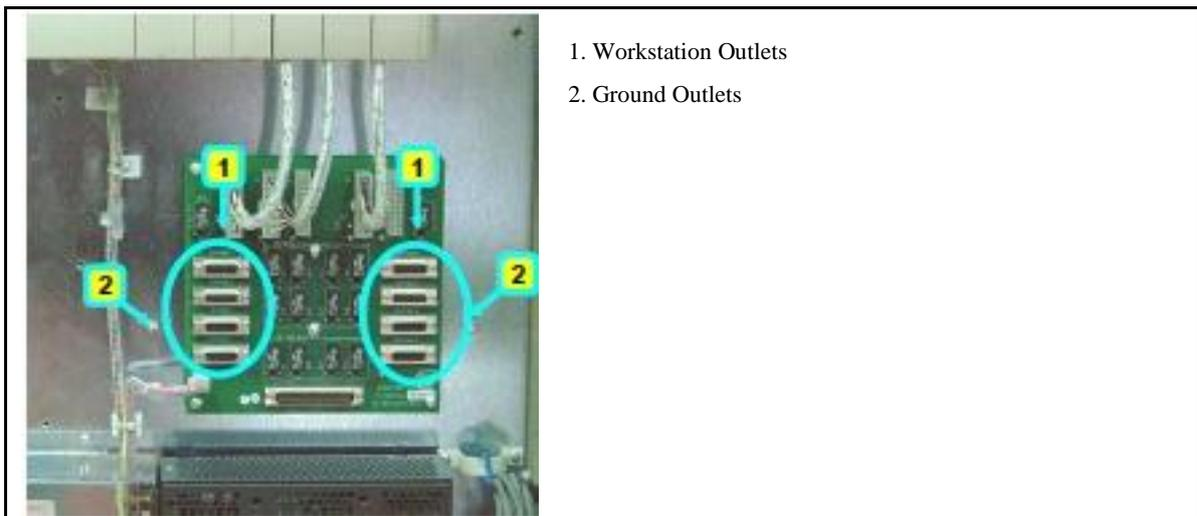
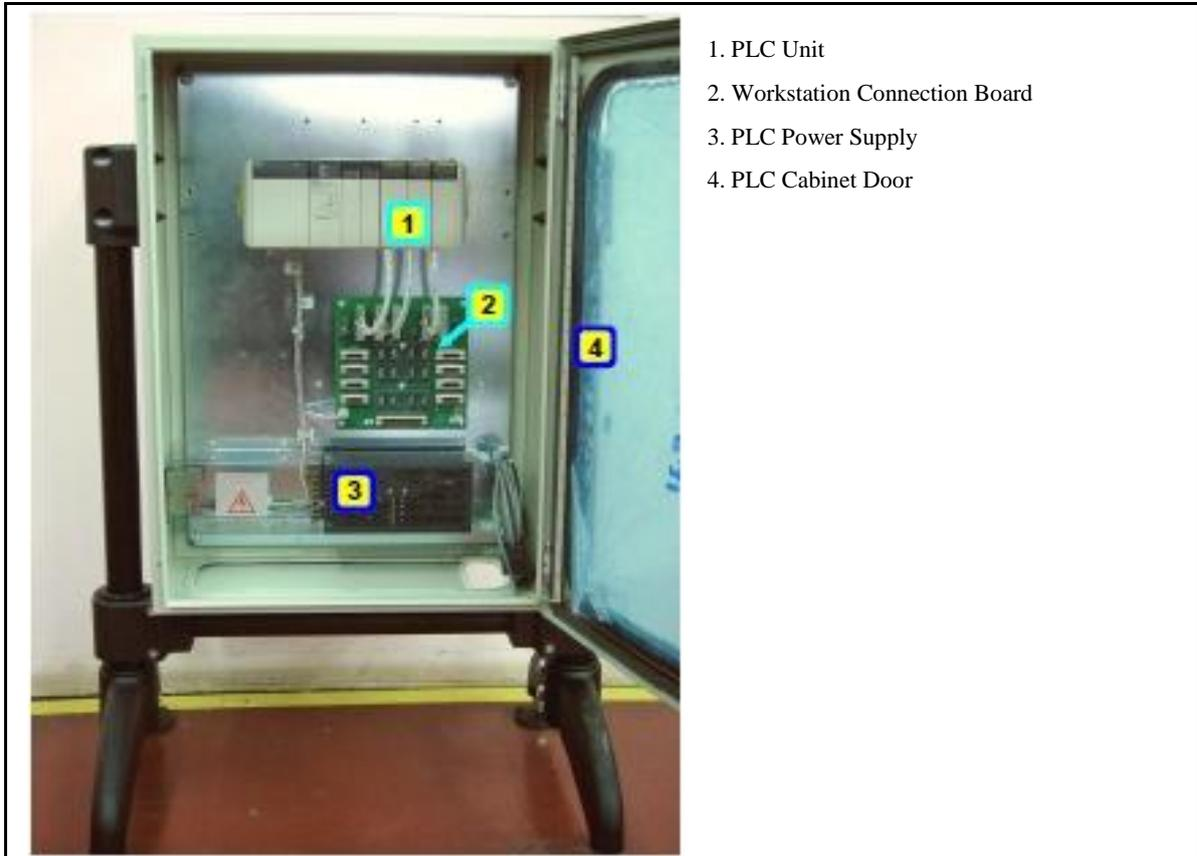
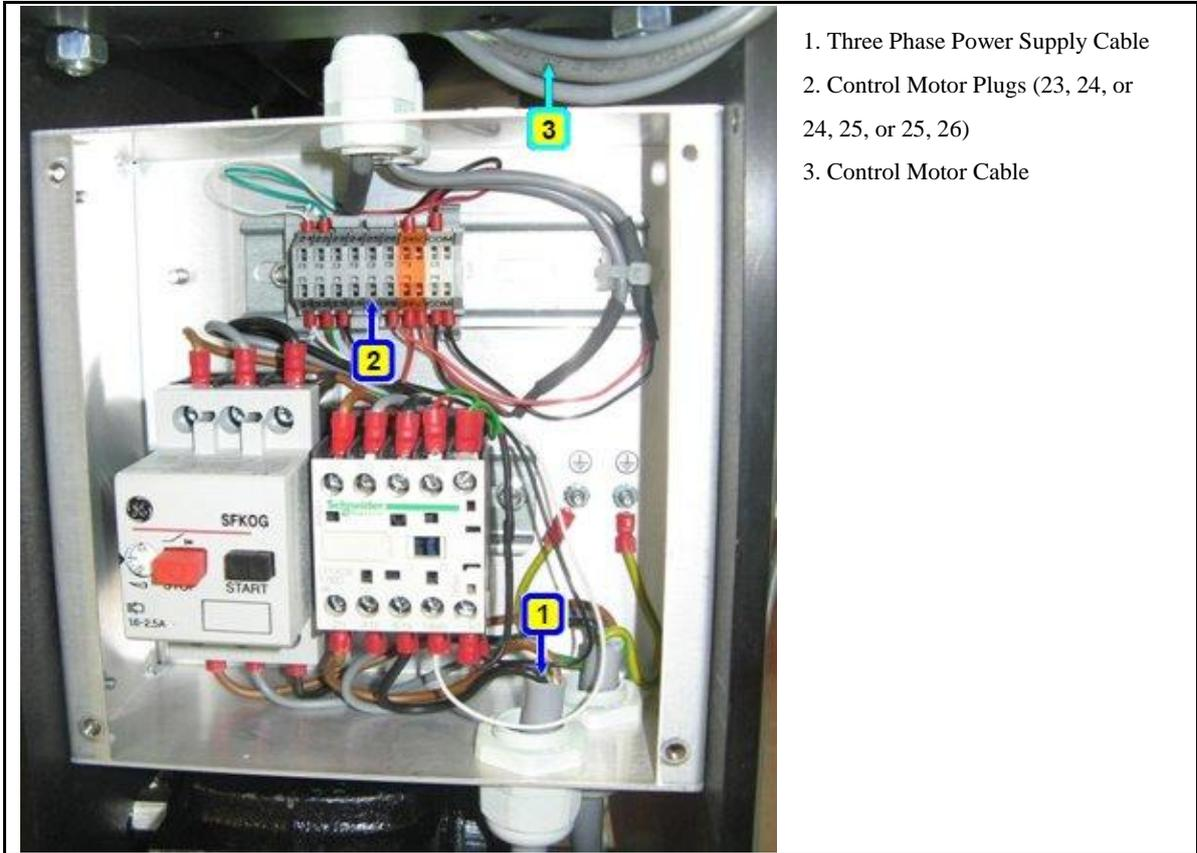
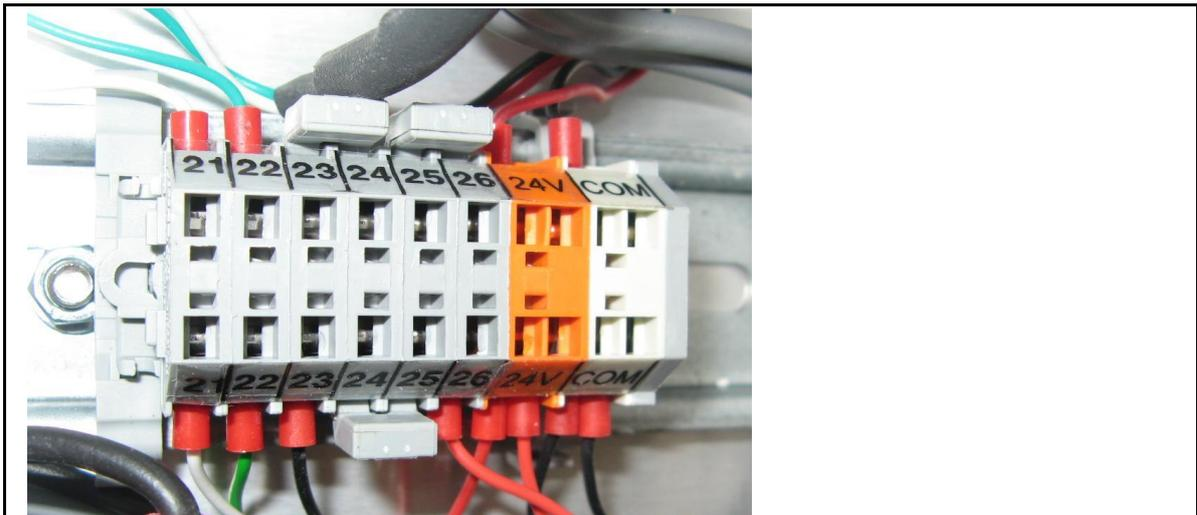

Figure 14: Workstation Connection Board
Figure 18: PLC Cabinet
Figure 20: Control Motor
Figure 21: Control Motor Plugs
3. Connect the Station Cables (starting from Station 1) to the corresponding connections on the Workstation Connection Board, located in the PLC cabinet, using the 15 pin connector. (See Figure 14.)
4. Pull each Station Cable through the Cable Pillar and in between the conveyor rails (use Omegas as support) until it reaches the required Station Box. See the PLC connections in Figure 14, and Figure 18.
This chapter explains how to wire the PLC Unit. The location of the PLC Unit and other components in the PLC Cabinet are shown in Figure 18.
2. Connect the Control Motor's cable (#3 in Figure 20) to the V+, V- outlets on the PLC Power Supply (#3 in Figure 18).
4. Ensure that each workstation is connected to the corresponding workstation outlet on the Workstation Connection Board on the PLC Cabinet, using a connection cable (D-Type 15 pin to 25 pin). This step was performed previously in, step 3 (see Figure 14).
- Remove plugs 23, 24 or 24, 25 or 25, 26 and replace them with emergency wires: (See #2, in Figure 20, or Figure 21, for a magnified view of the control motor plugs).